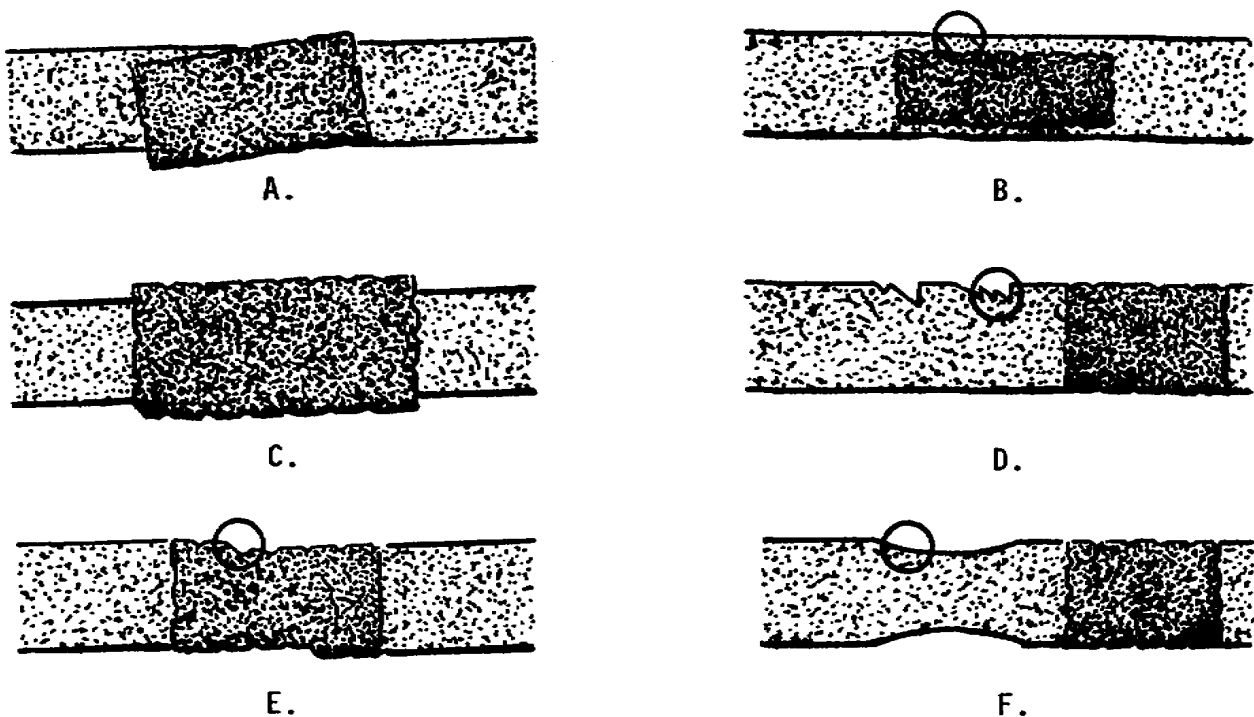

Figure 4-36. Examples of how NOT to splice tape
b. Ragged edges. In extreme cases, poor splicer design can even damage the tape. Ragged edges in the channel of very cheap blocks can snag and nick the tape. With thin polyester-base tapes, too, there is the danger that a device with too good a grip--plus a careless user--can yank the tape until it stretches or its edges curl (fig 4-36).